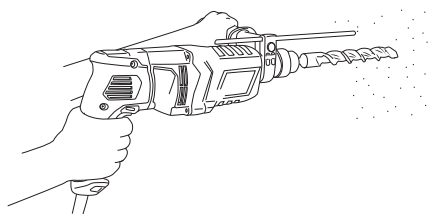

Fig. 7
- (1) Mount the drill bit.
- (2) Pull the trigger switch after applying the drill bit tip to the drilling position (Fig. 7).
- (3) Pushing the rotary hammer forcibly is not necessary at all. Pushing slightly so that drill dust comes out gradually is sufficient.
When the drill bit touches construction iron bar, the bit will stop immediately and the rotary hammer will react to revolve. Therefore grip the side handle and handle tightly as shown in Fig. 7.